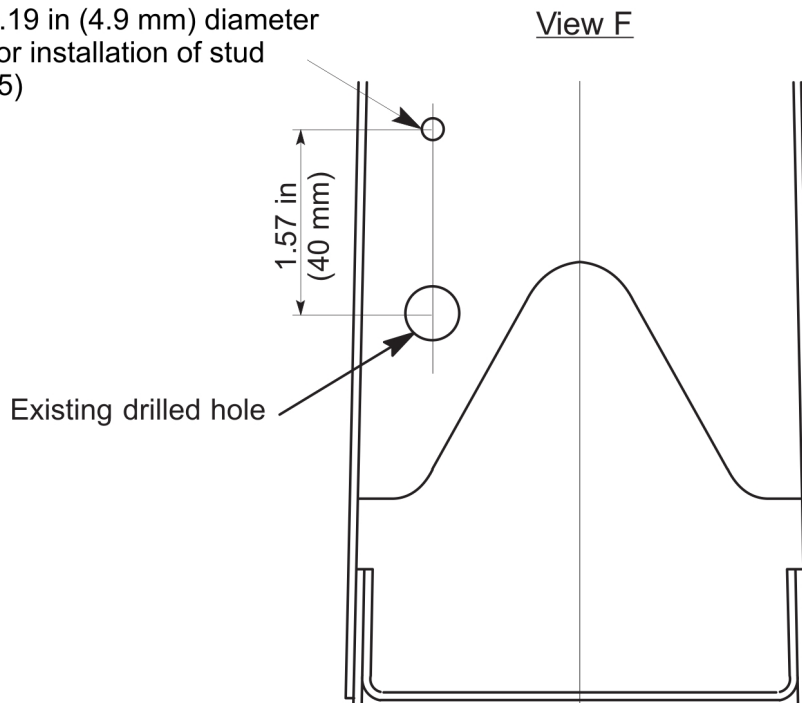

Figure 5: RE-ROUTING THE WIRING - AIRCRAFT WITH WIRING ROUTED AROUND THE BACK OF FAIRING
- (1) Remove the WHELEN light unit assembly.
- (2) Drill a 0.19 in (4.9 mm) diameter hole through the rib 3 of the fairing.
- (3) Install new clamping stud (item 5) on rib 3.
- (4) Remove contacts from connector (4LX).
- (5) Adjust the wiring length for proper re-routing in accordance with **fig. 5**.
- (6) Fit the cut wires with new contacts and insert them into connector (4LX).
- (7) Clamp the wiring to rib 3.
- (8) Connect connector (4LX) to the WHELEN light.
- (9) Attach the light unit assembly to the fairing.